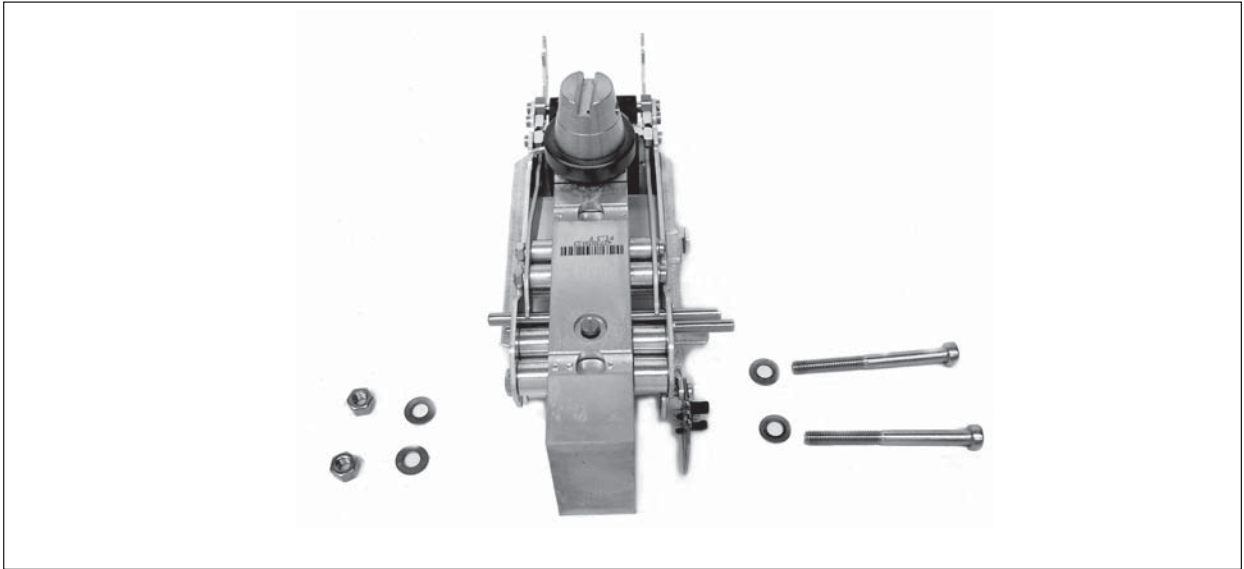

Figure 3-47. Ratio Beam Screws and Washers Removed.
5. Remove the screws and washers as shown in Figure 3-47.